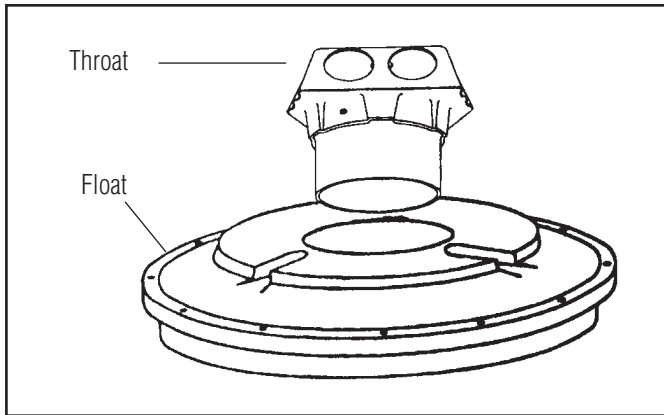

Figure 2
A. Install the LM11 throat --see figure 2.